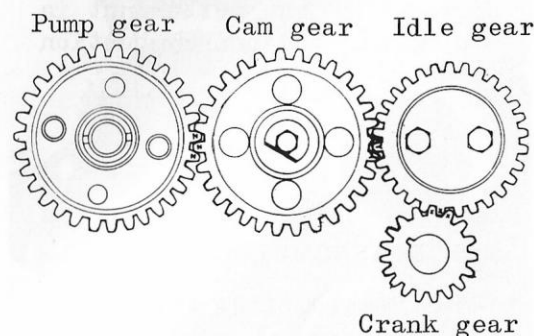

Fig. 4-51
- (1) Put the timing wheels through the crankshaft and camshaft and then, install them in the cylinder body.
- (2) The crank gear is provided with mark X-X and the cam gear is also provided with mark Y-Y and Z. The idle gear has the marks X and Y.
- (3) The idle gear should be so arranged that the X-X mark on the crank gear and the Y mark on the idle gear correspond with the X mark on the idle gear and the Y-Y mark on the cam gear respectively. Backlash of the gears is standard at 0.1mm.
- (4) The injection pump drive gear should be so arranged that the ZZ mark on the pump drive gear corresponds with the Z mark on the cam gear. (See Fig. 4-51)